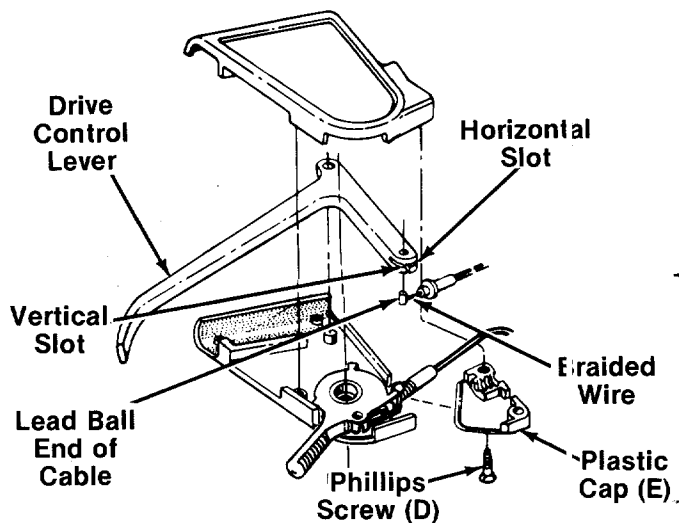

FIGURE 8.
- b. Slide the braided wire around in the horizontal slot. See figure 8.
- d. Secure the plastic cap (E) to the clutch control housing using the two Phillips head screws (D). See figure 8.